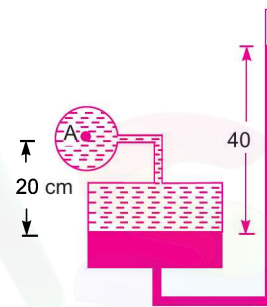

Fig. 2.17
**Problem 2.14** A single column manometer is connected to a pipe containing a liquid of sp. gr. 0.9 as shown in Fig. 2.17. Find the pressure in the pipe if the area of the reservoir is 100 times the area of the tube for the manometer reading shown in Fig. 2.17. The specific gravity of mercury is 13.6.